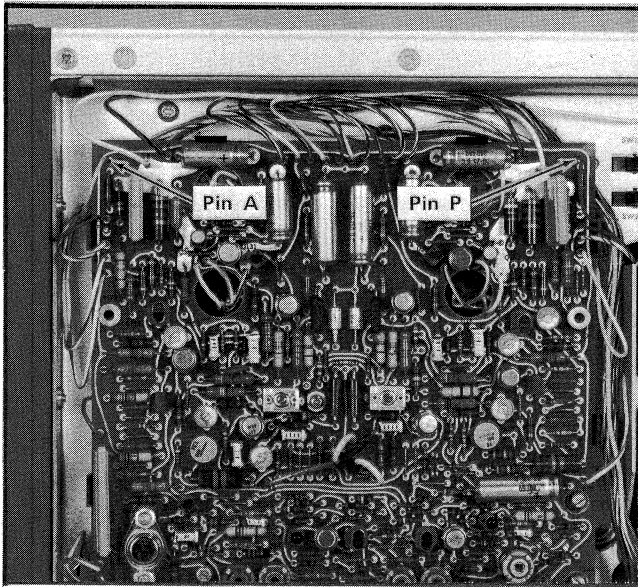

Fig. 5-25. Test point locations on the X-Y Amplifier board for steps 31 and 32.
- g. Connect the Channel 1 10X probe to pin P on the X-Y Amplifier circuit board (Fig. 5-25).